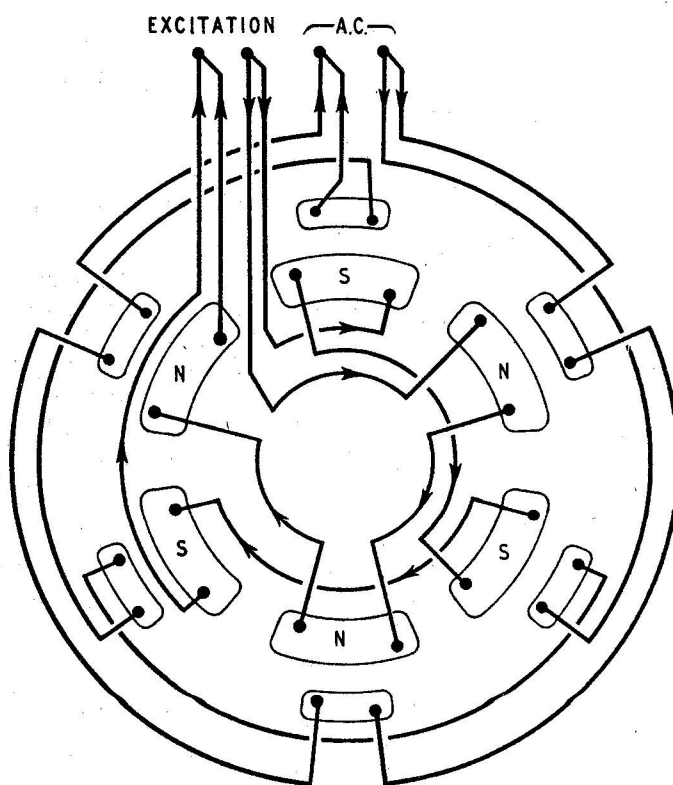

Fig. 2. Internal connections
3. The Type Y1 is a heteropolar inductor generator and has both the a.c. (output) and the d.c. (excitation) coils on the stator. There are six a.c. coils and six excitation coils, each set of coils being connected 3 series and 2 parallel (*fig. 2*). The a.c. coils are arranged in slots at the centre of each pole piece; each coil spans one pole pitch as shown diagrammatically in *fig. 3*. The excitation coils are shown in red and the output coils in blue; the flux path is also shown.